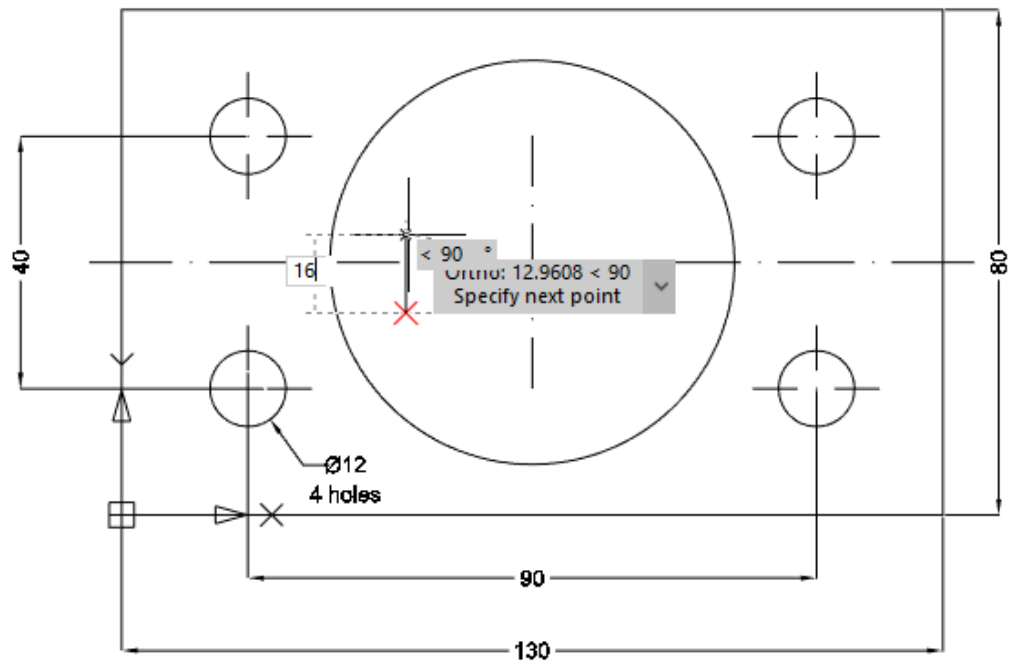

Fig. 2. Dynamic input
1.3. Start drawing the polyline from the base point. Type the distance **16** (fig. 2):